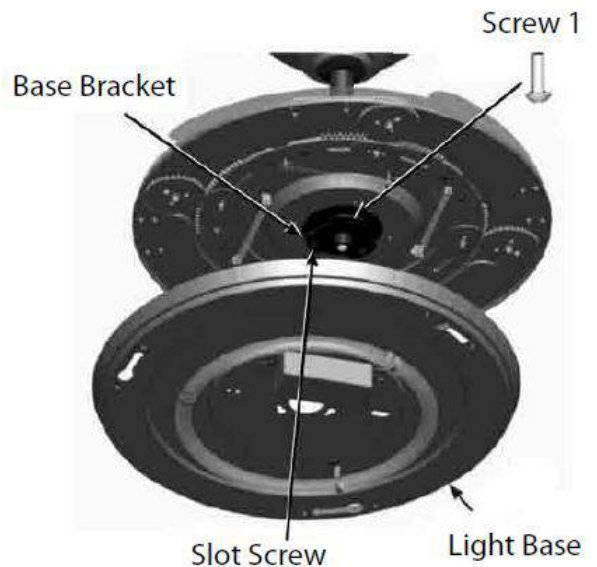

Figure 5
1. Loosen the screw (1-Fig.5, arrow mark) from base bracket. Align two slot screws with the keyhole slots of light base.